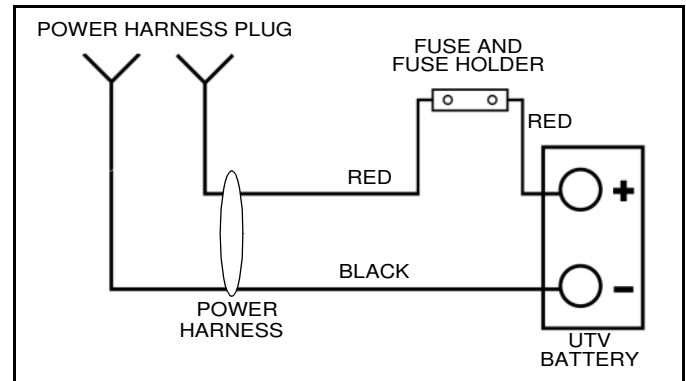

Figure 1-2
2. Mount the fuse holder near the battery using (2) #10 x 1" self tapping screws.
3. Take the cover off of the fuse holder. Place the end of the 6" long power wire with the small ring terminal over one of the studs. (See Figure 1-2).